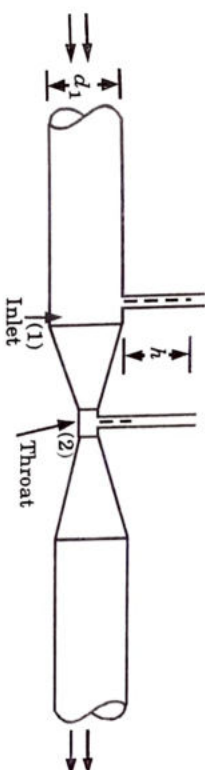

Fig. 3.13.1.
1. As shown in Fig. 3.13.1, a venturimeter is fitted in a horizontal pipe through which a fluid is flowing.